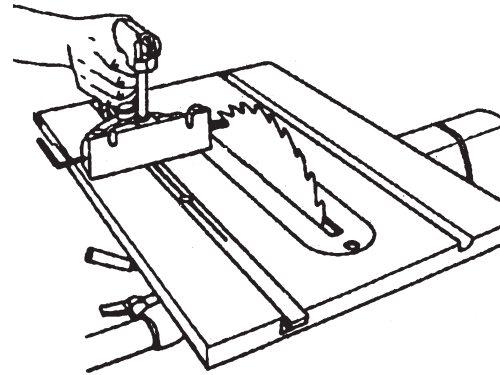

Figure 48
4. Move the Miter Gauge from front to back along the Saw Blade, as shown in Figs. 48 and 49. If it hangs up on the Blade or a gap develops, the Miter Gauge Slots need to be aligned. Make sure the Allen Wrench does not contact a Saw Blade tooth, because the tooth "set" will cause misalignment.